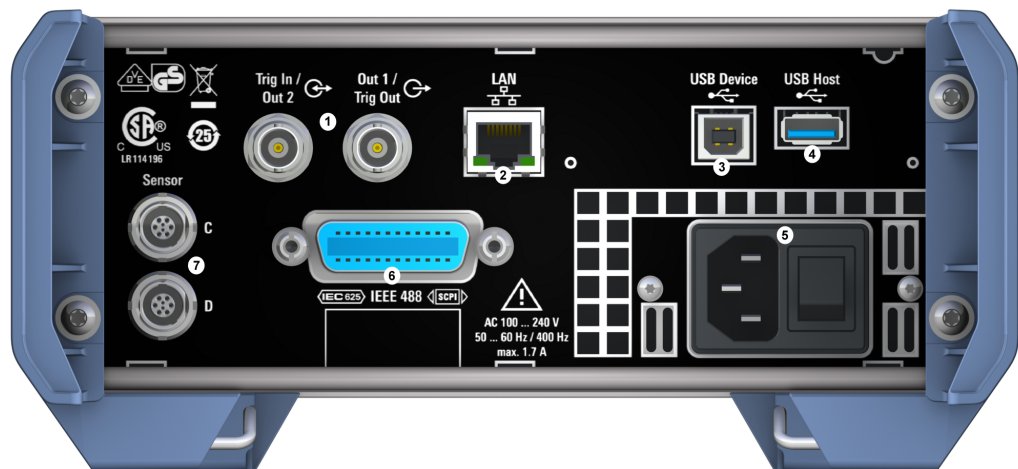

Figure 3-3: Rear panel of the R&S NRX
See (1) in Figure 3-3.
See (2) in Figure 3-3.
See (3) in Figure 3-3.
See (4) in Figure 3-3.
See (5) in Figure 3-3.
See (6) in Figure 3-3.
See (7) Figure 3-3.